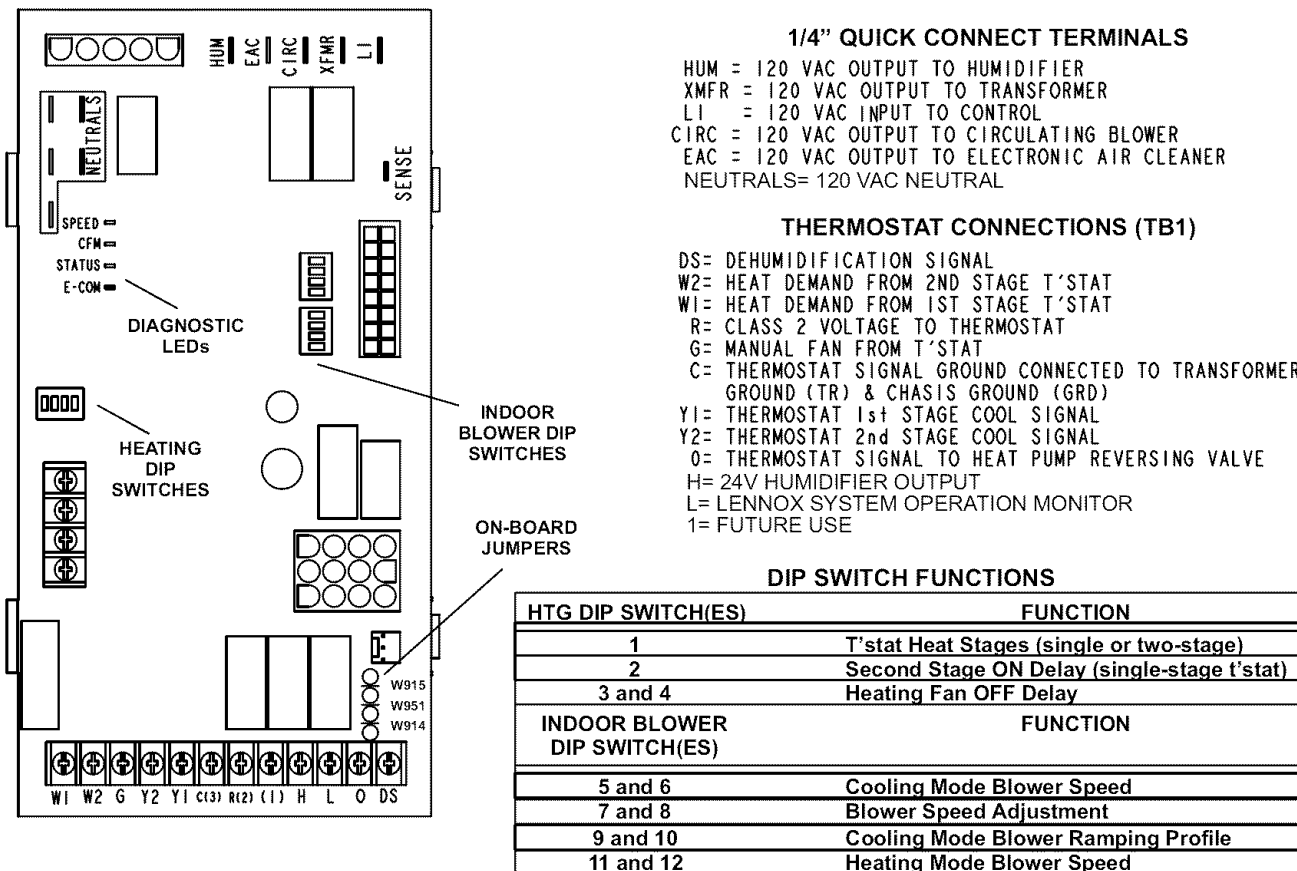

FIGURE 25
*NOTE - The G60UHV(X) furnace contains electronic components that are polarity sensitive. Make sure that the furnace is wired correctly and is properly grounded.*
- 7 - One line voltage "EAC" 1/4" spade terminal is provided on the furnace control board. Any electronic air cleaner rated up to one amp can be connected to this terminal with the neutral leg of the circuit being connected to the one of the provided neutral terminals. See figure 25 for control board configuration. This terminal is energized when the indoor blower is operating.
- 8 - One line voltage "HUM" 1/4" spade terminal is provided on the furnace control board. Any humidifier rated up to one amp can be connected to this terminal with the neutral leg of the circuit being connected to one of the provided neutral terminals. See figure 25 for control board configuration. This terminal is energized in the heating mode whenever the combustion air inducer is operating.
- 9 - One 24V "H" terminal is provided on the furnace control board terminal block. Any humidifier rated up to 0.5 amp can be connected to this terminal with the ground leg of the circuit being connected to either ground or the "C" terminal. See figure 25 for control board configuration.